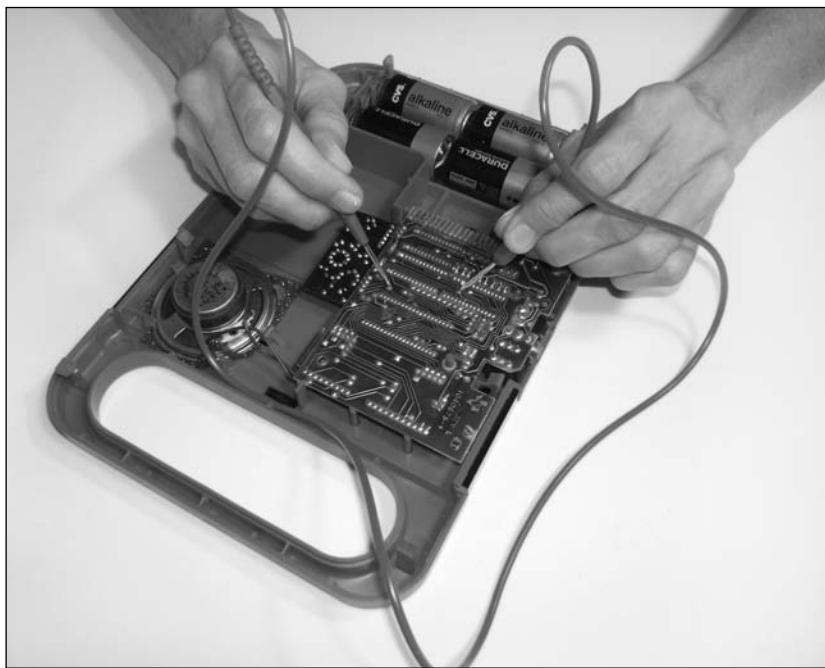

FIGURE 9-13: The circuit-bending probe in action
1. With the instrument making a sound, place one end of the bending wire upon a printed circuit trace or metal component lead on the board, such as on the "leg" of a resistor or capacitor (see Figure 9-13).